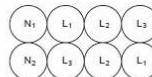

Figure H.52.2 – Special configuration for 6 parallel single-core cables above each other (see 523.7)
- 2) above each other, see Figure H.52.2,